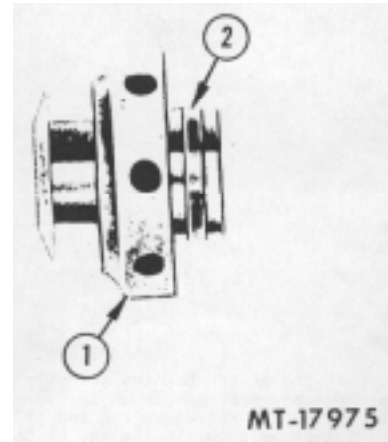
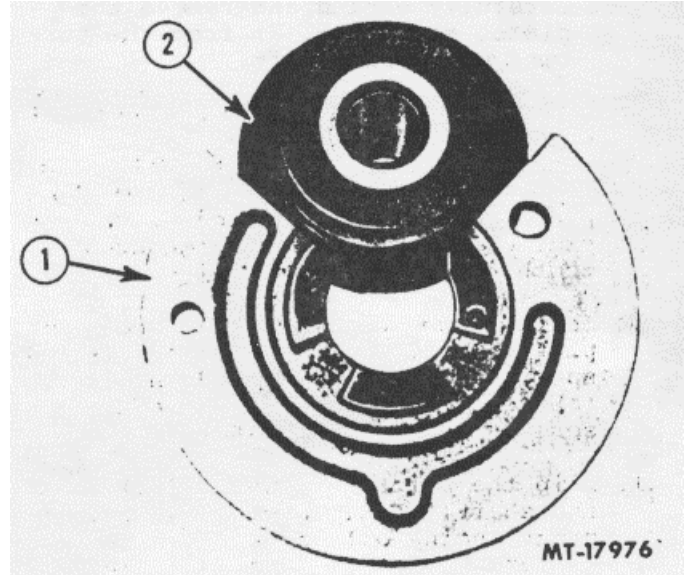

Fig. 20
Fig. 21
- c. Remove the seal ring from the thrust collar (Fig. 20). Discard the seal ring.
1. If the inboard bearing retainers (18) were removed, use a sharp pick to install new retainers into their grooves in the bore of the center housing. Insure the retainers are properly seated in the grooves.
2. Lubricate the housing bearings (19) with clean engine oil and push them into the bores until they seat against the retainers (18). Install new outer retainers (18) after installing bearings.
3. Install the piston ring (14) into the groove on the shaft (25).
4. Place the shroud (24) over the turbine end of the center housing. Carefully insert the shaft (25) through the shroud and center housing.
5. Install a new seal ring onto the thrust collar (Fig. 20). Install the thrust washer onto the collar with the flat surface of the washer next to the large diameter of the collar (Fig. 21).